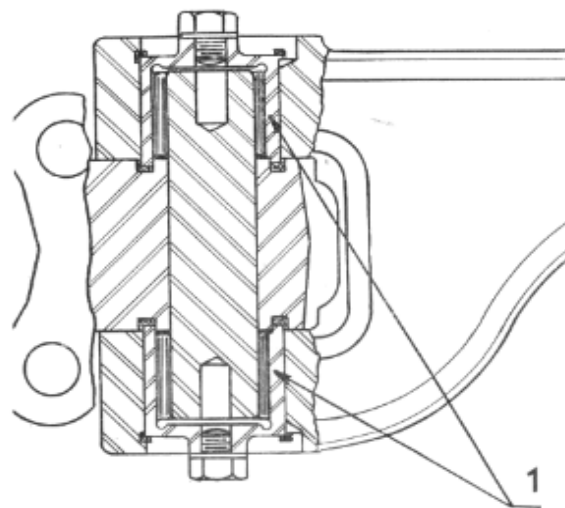

Figure 3
The center section of the Axleflex front axle is composed of two (2) I-beam members mounted on needle bearings (1) Fig. 3 lubricated and sealed and should not require further lubrication.